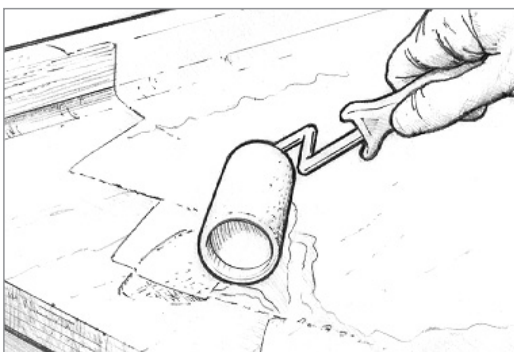

Figure 6-8 Wet out porous surfaces before applying thickened fairing compound.
2. Wet out porous surfaces with unthickened epoxy (*Figure 6-8*).